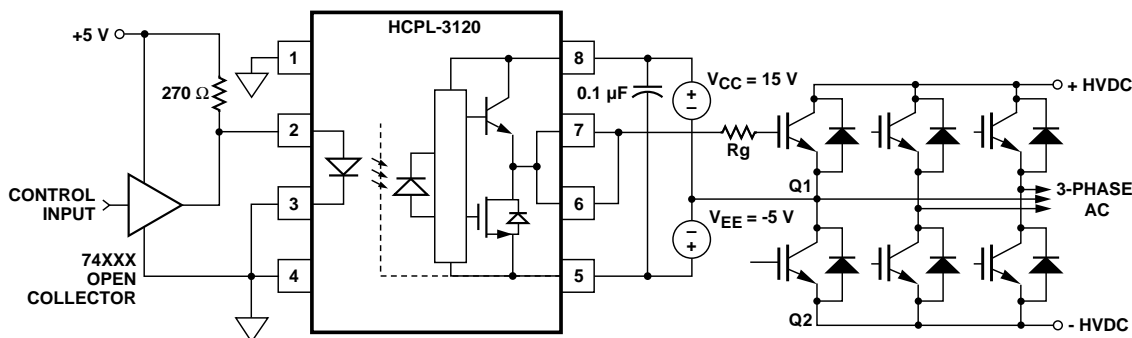

Figure 26. HCPL-3120 Typical Application Circuit with Negative IGBT Gate Drive.
Step 1: Calculate Rg Minimum from the I_{OL} Peak Specification. The IGBT and Rg in Figure 26 can be analyzed as a simple RC circuit with a voltage supplied by the HCPL-3120.
For the circuit in Figure 26 with I_F (worst case) = 16 mA, Rg = 8 Ω, Max Duty Cycle = 80%, Qg = 500 nC, f = 20 kHz and T_A max = 85°C: